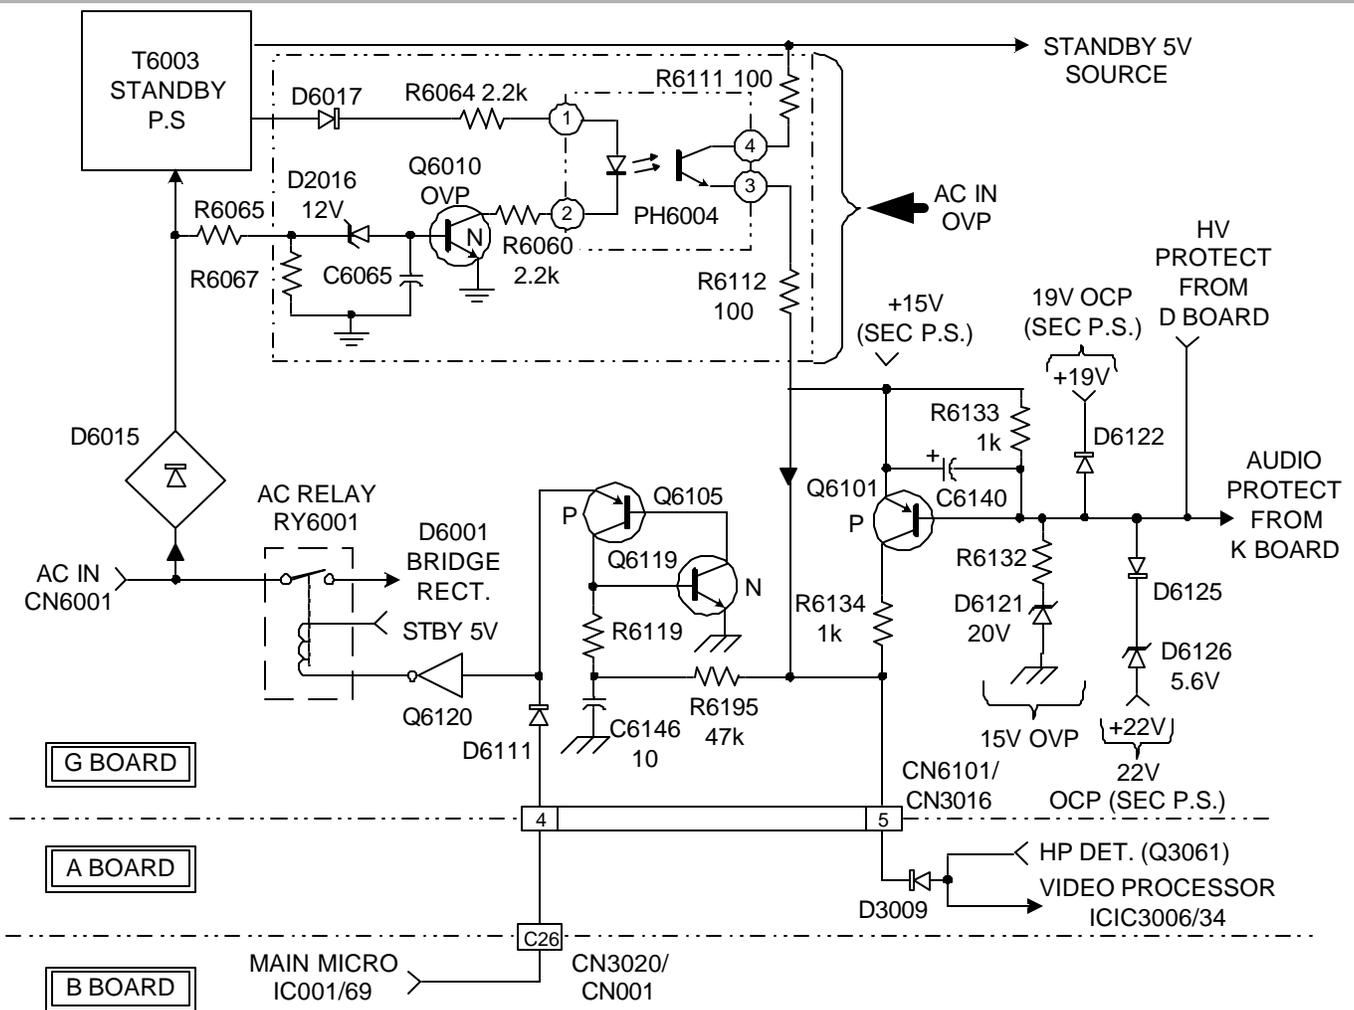

FIGURE 17-2 - SHUTDOWN - NO INDICATION - RA - 5A CHASSIS 17.2TVP14 1463 7/11/02
3. 15V OVP: Monitored by Q6101 and D6121 as shown in Figure 17-2.
Since RY6001 and RY6002 are engaging, there are the five monitoring circuits mentioned earlier that will cause the unit go into protect as shown in Figure 17-2. Monitoring AC current draw while letting the unit go into protect will assist in determining whether the failure is current, or voltage related and steer you to the circuits to check first.